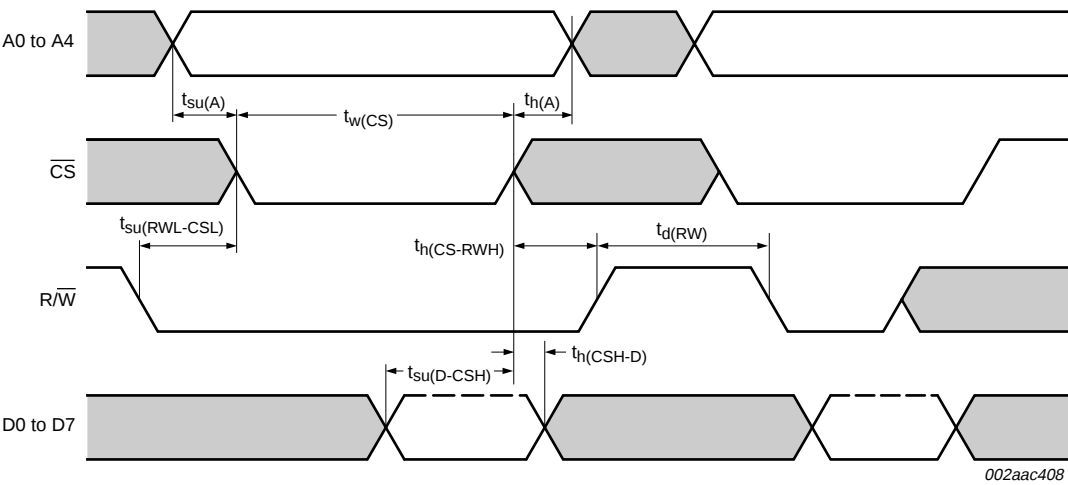
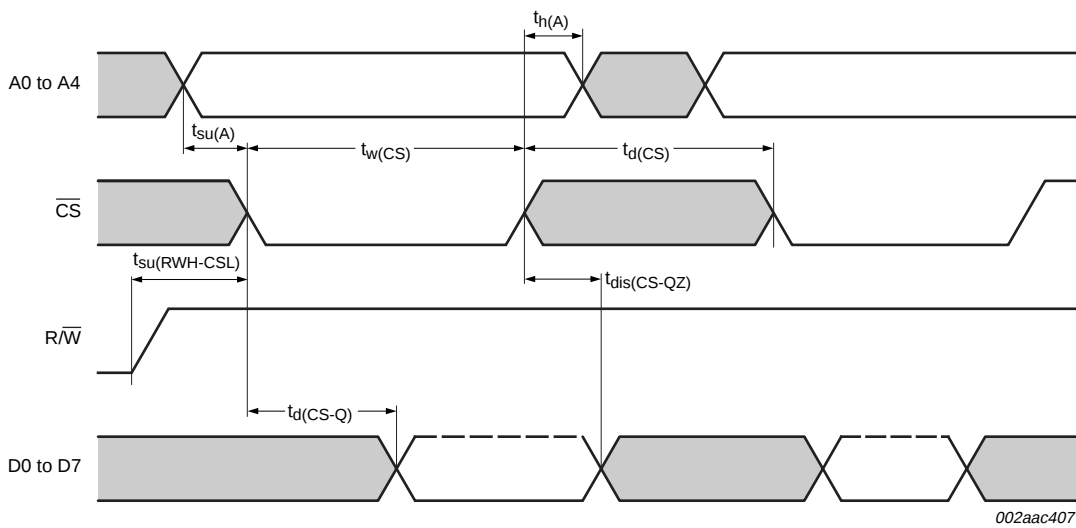

Fig 12. General write timing in 68 mode
Fig 14. General read timing in 68 mode
(1) $\overline{\text{CS}}$ timing during a write cycle. See Figure 12.(2) $\overline{\text{CS}}$ timing during a read cycle. See Figure 14.